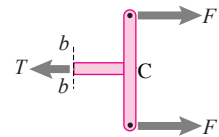

Figure 8.22
2. Now, we cut the bar at section $b-b$ and again consider the section of the bar to the right of the cut-section. The free-body diagram of this part of the bar is shown in fig. 8.22. Again, the force balance in the horizontal direction gives